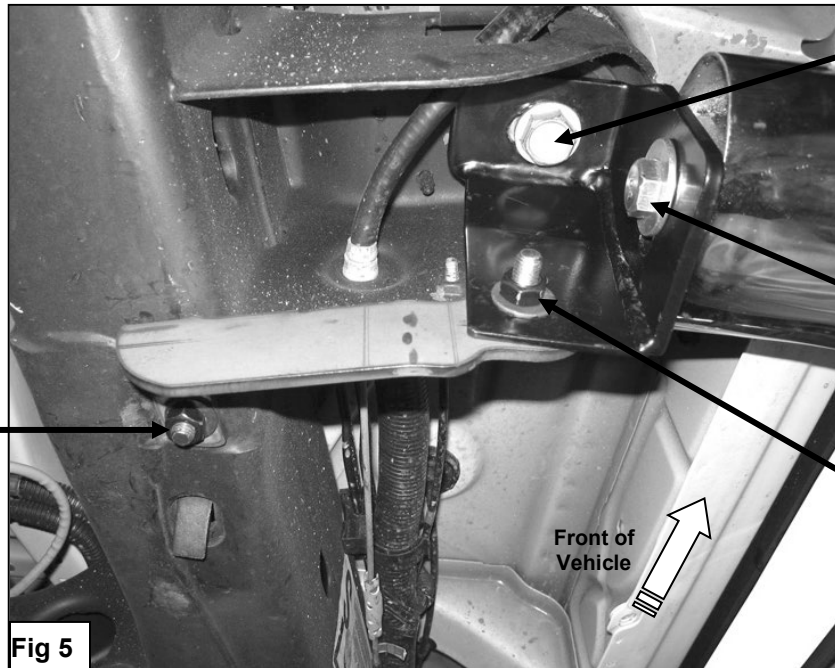

Fig 5
- Partially attach driver side front Support Bracket to already inserted Bolt Plate using the included (1) 10mm Lock Washer, (1) 10mm Hex Nuts, and (1) 10mm Flat Washer. Attach opposite side of front Support Bracket to front Mounting Bracket using the included (1) 10mm x 30mm Hex Head Bolt, (1) 10mm Lock Washer, (1) 10mm Flat Washer, and (1) 10mm He Nut (**Figure 5**).